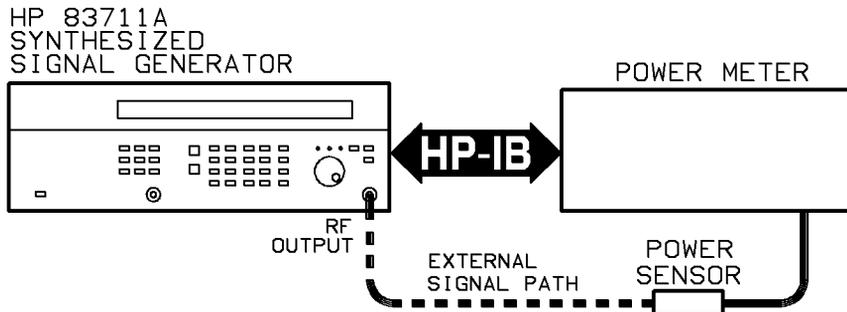

Figure 3-4. Level Correct Routine Equipment Setup
1. Connect the equipment as shown in Figure 3-4: